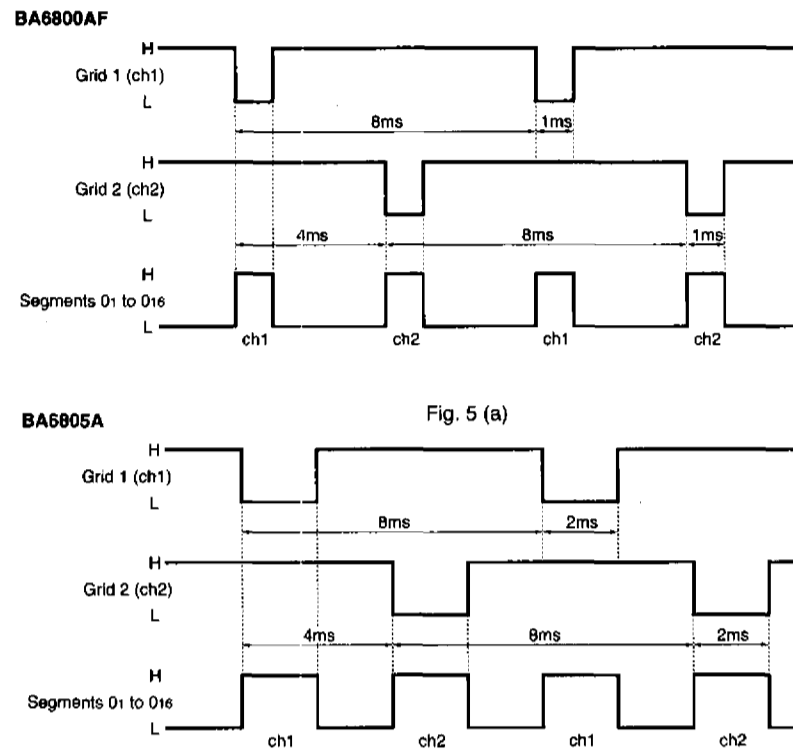

Fig. 5 (b)
(5) Grid and segment output timing chart. The grid and segment output timing for an oscillator frequency of 2kHz is shown in Fig. 5.
(6) Attack and release times